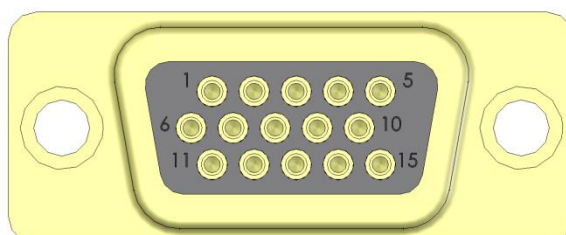
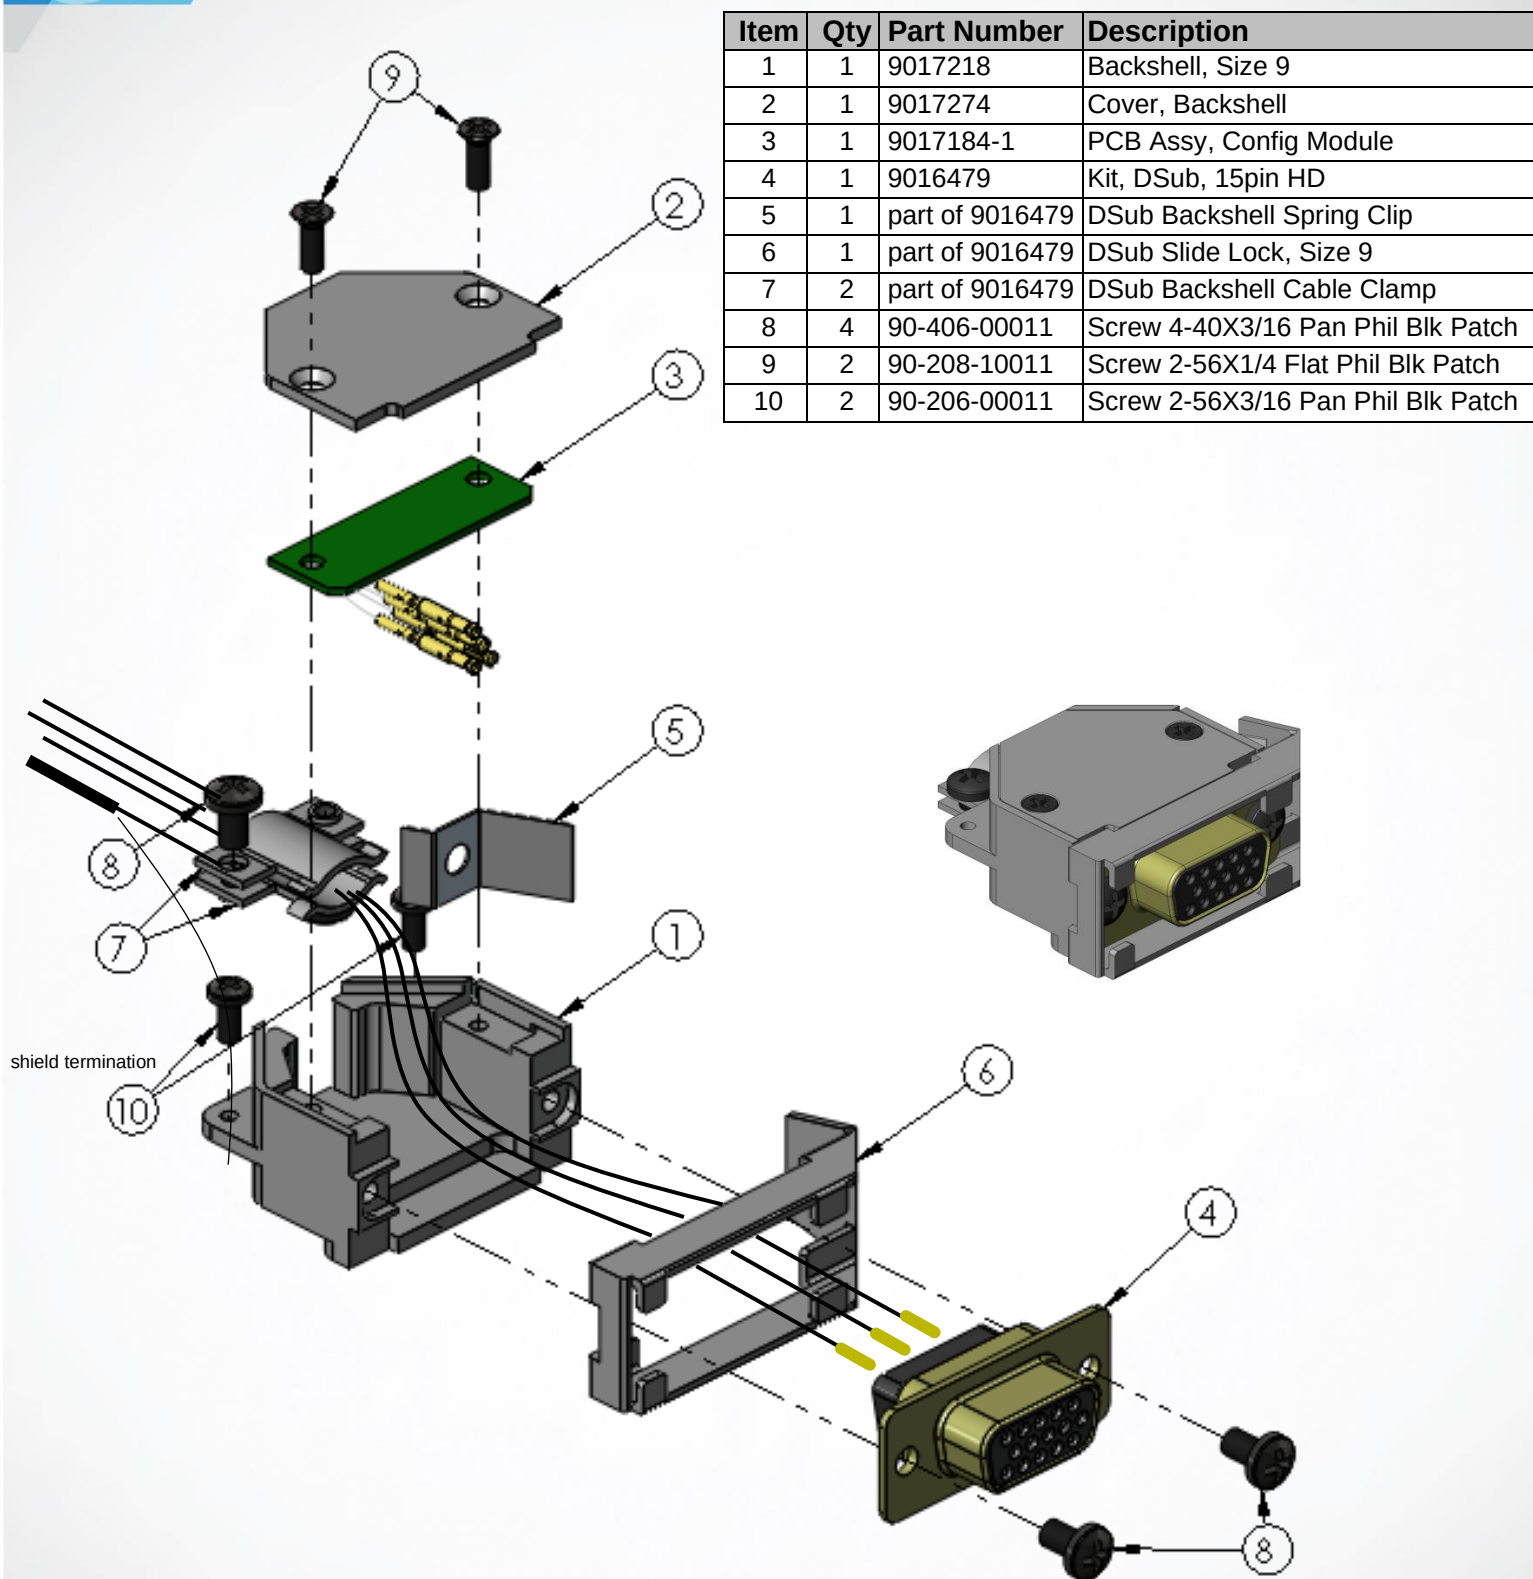

FIGURE 3.1
FIGURE 3.2
Construct the cable harness in accordance with the instructions below including the Connector Pinout of Table 3.1 and Figure 3.1 and Configuration Module Assembly of Figure 3.2. Installers should follow industry-accepted practices regarding aircraft wiring and applicable regulatory requirements and guidance. The instructions for constructing the cable harness as listed within this manual were also used to construct the harness during environmental and electrical testing. Alterations may invalidate environmental qualification and/or performance results.
To assemble the aircraft cable harness and Configuration Module refer to the following instructions and Figure 3.2:
- 3) Insert the pins of the cable harness into the rear of the 15-pin D-Sub connector (Item 4) per Table 3.1 and Figure 3.1 using an appropriate pin insertion tool.